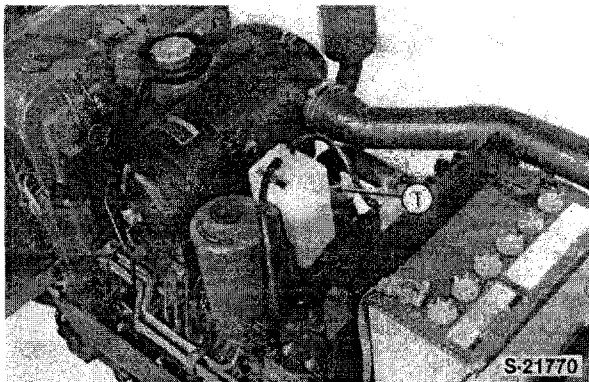

Figure 10
On the model 1720 tractor a coolant sender switch is located on the bottom of the coolant reserve tank (1), Figure 10.